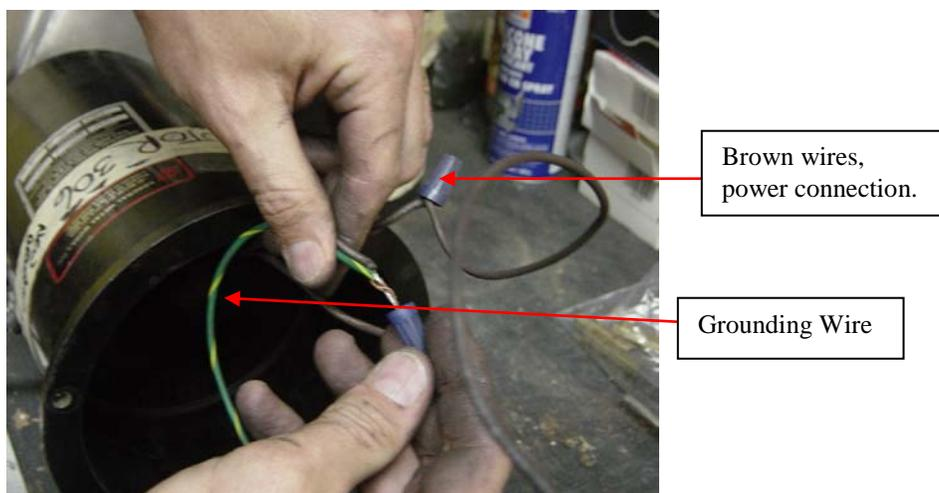
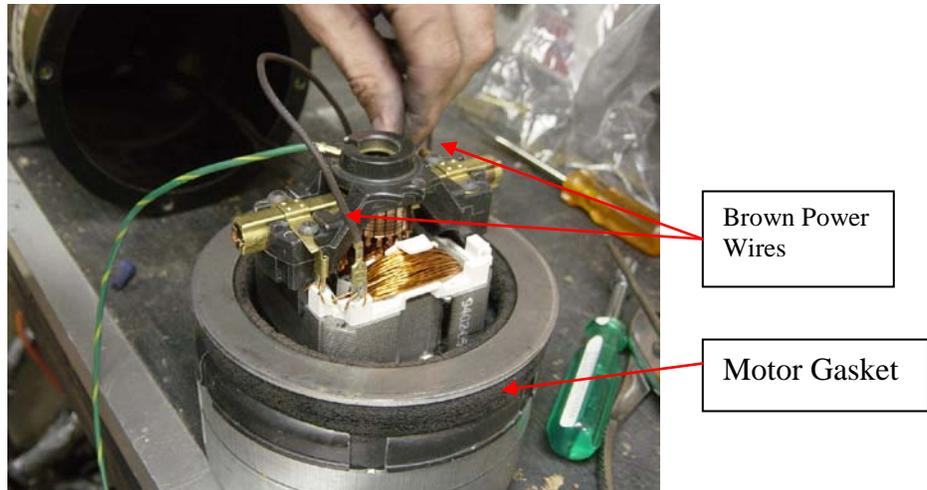

Figure 7-5. Wire Connections to the Power Cord.
Figure 7-6. Removal of Brown Power Wires.
2. Disconnect the green grounding wire from the power cord wires (Figure 7-5).
3. Either remove the brown power wires from the new motor by sliding them off their connections (Figure 7-6) and connect the brown wires from the power cord onto the new motor or disconnect the old motor's brown wires from the power connection with the power cord (Figure 7-5) and connect the new motor's brown wires with the power cord. Before connecting the new power wires to the power cord, remove the foam and metal motor gasket from the old motor and place it on the new motor (Figure 7-6).
4. Connect the green grounding wire on the motor to the power cord (Figure 7-5). Twist the wires together clockwise to connect them.